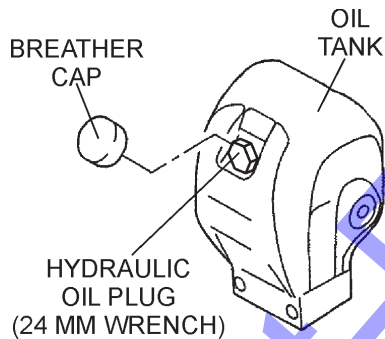

Figure 33. Hydraulic Oil Tank
1. Remove the breather cap and oil plug (Figure 33) from the hydraulic oil tank using a 24mm hex socket.